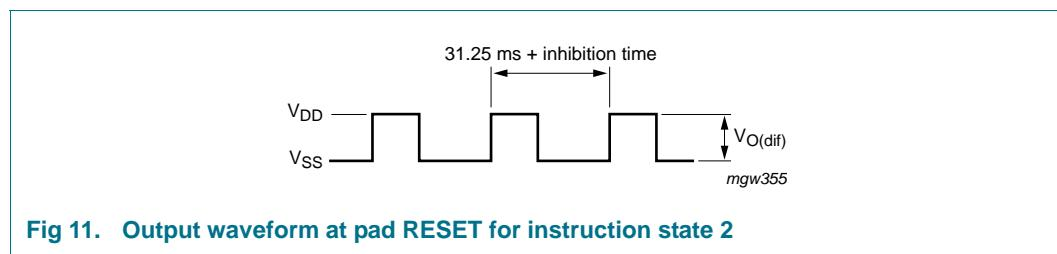
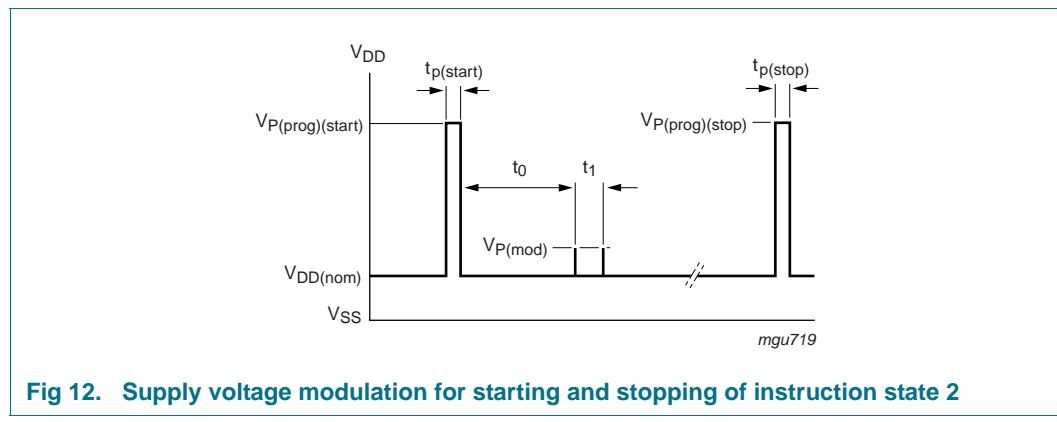

Fig 11. Output waveform at pad RESET for instruction state 2
Fig 12. Supply voltage modulation for starting and stopping of instruction state 2
Each instruction state is switched on with a pulse to $V_{P(\text{prog})(\text{start})}$. After this large pulse, an initial waiting time of t_0 is required. The programming instructions are then entered by modulating the supply voltage with small pulses (amplitude $V_{P(\text{mod})}$ and pulse width t_{mod}). The first small pulse defines the start time, the following pulses perform three different functions, depending on the time delay (t_d) from the preceding pulse (see Figure 7, Figure 8, Figure 11 and Figure 12):
- State 2: inhibition time has a value of $n \times 0.122\text{ ms}$. A signal with periodicity of $31.25\text{ ms} + n \times 0.122\text{ ms}$ appears at pad RESET and as current modulation at pad V_{DD} (see Figure 11 and Figure 12)
See Figure 7, Figure 8 and Figure 12.